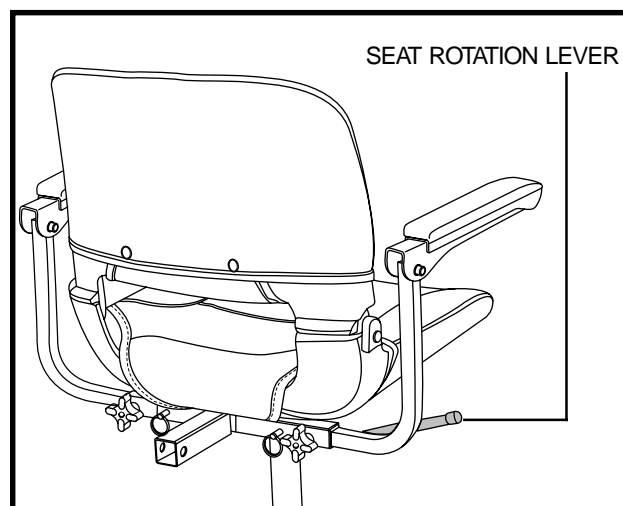

Figure 18. Seat Position Adjustments
1. Push forward on the seat rotation lever to disengage the seat. **See figure 18.**